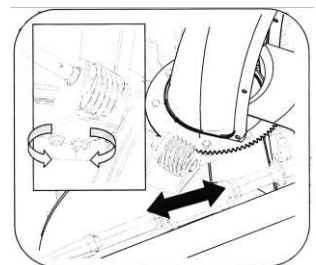

Figura 34
2. A reapertar as nozes. Veja a Figura 34.